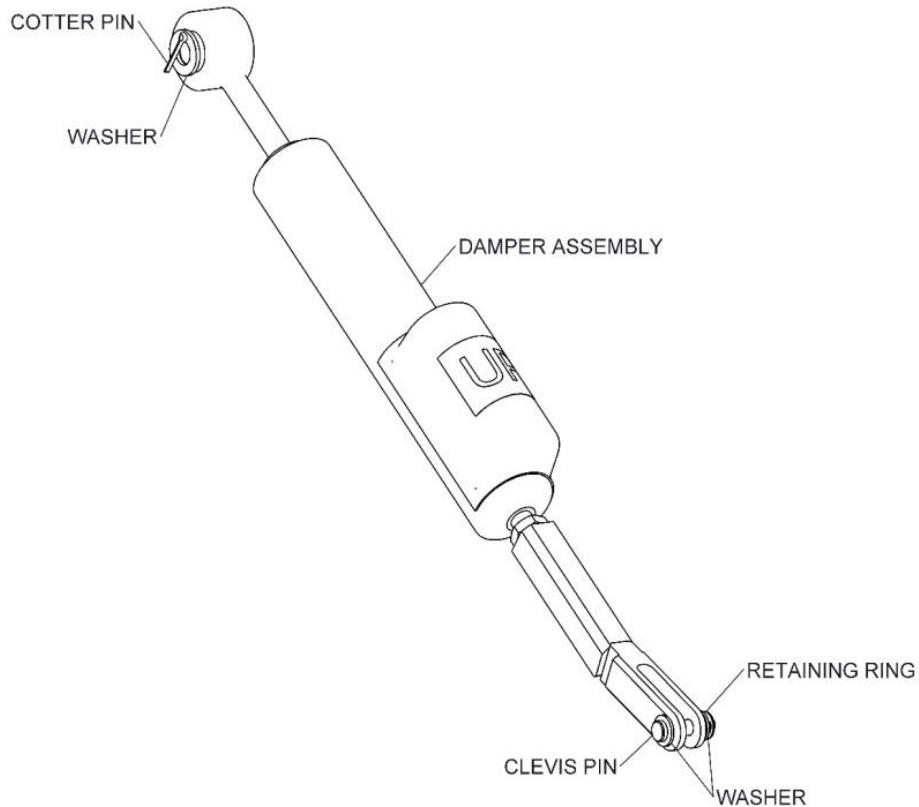

Figure 4-3: Damper and Hardware
1. Raise the pantograph and disconnect the damper from the pantograph by removing the clevis pin and two washers that attach the damper to the lower arm. See Figure 4-3.
2. Disconnect damper by removing the clevis pin and two washers at the lower arm. See Figure 4-3.
7. Reconnect the damper to the pantograph by installing the clevis pin and two washers. Refer to Figure 4-3.
1. Disconnect the damper from the end located near the chain by removing the clevis pin and two washers. See Figure 4-3.
7. Reconnect the damper's extension arm to the pantograph by installing the clevis pin and two washers. See Figure 4-3.